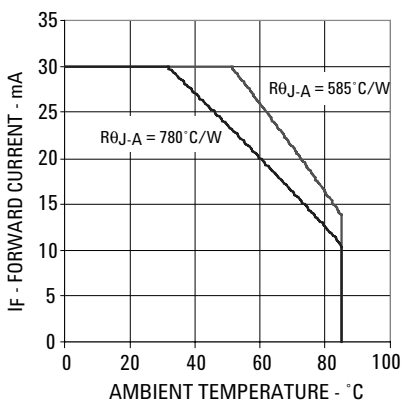

Figure 2. Forward Current vs. Ambient Temperature
1. Derate linearly as shown in figure 2.